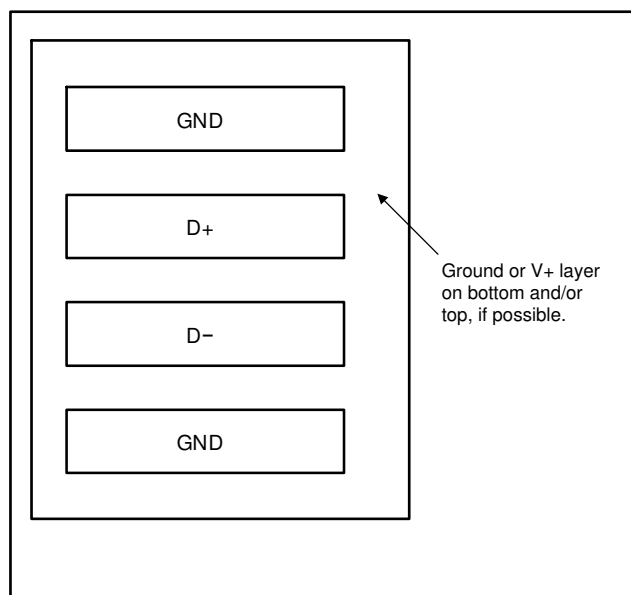

Figure 9-10. Example Signal Traces
- Route the D+ and D– traces next to each other and shield the traces from adjacent signals using ground guard traces, as shown in Figure 9-10. If a multilayer PCB is used, bury these traces between ground or VDD planes to shield the planes from extrinsic noise sources. TI recommends using 5mm (0.127mm) PCB traces.